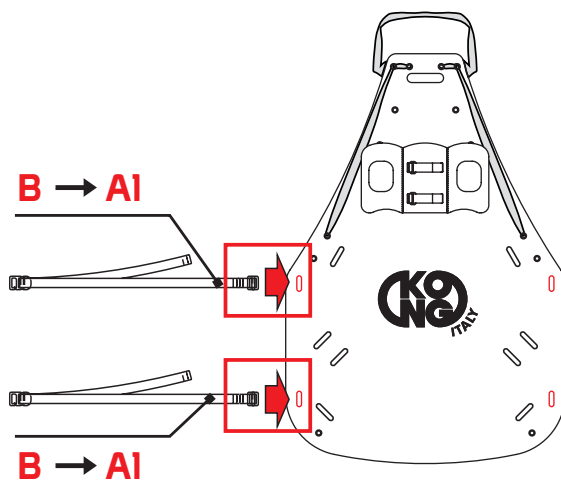

Fig.9
- Insert the slings (B) in the A1 eyelets in the support surface (fig. 9).